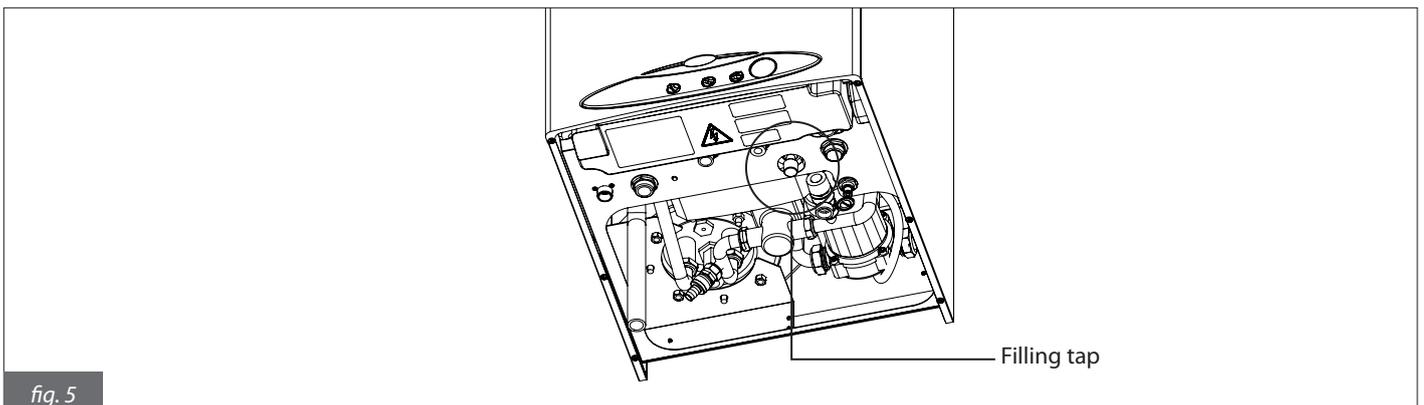

fig. 5
- Turn the filling tap (fig. 5) anticlockwise to allow water to enter the boiler;